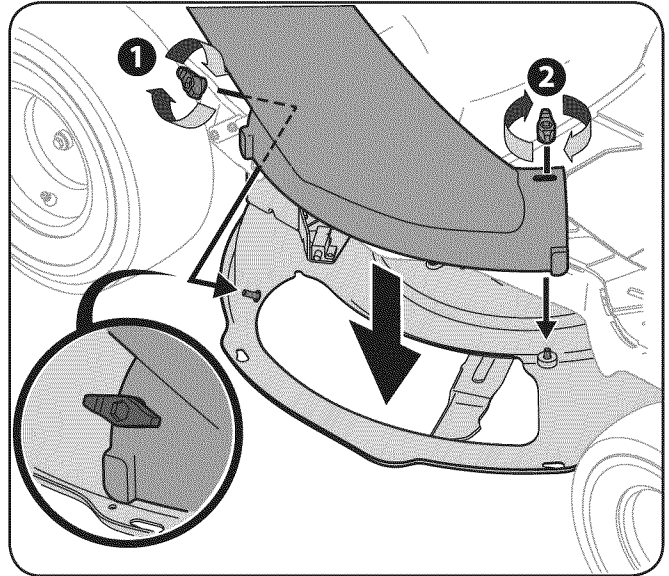

Figure 7
9. Mount the bagger chute tube to the deck of the tractor by lowering the chute tube over the mounting bolts in the mowing deck, as shown in Figure 7.
10. Secure the rear mounting bolt with a wing knob (1), then the front mounting bolt with another wing knob (2) as shown in Figure 7.